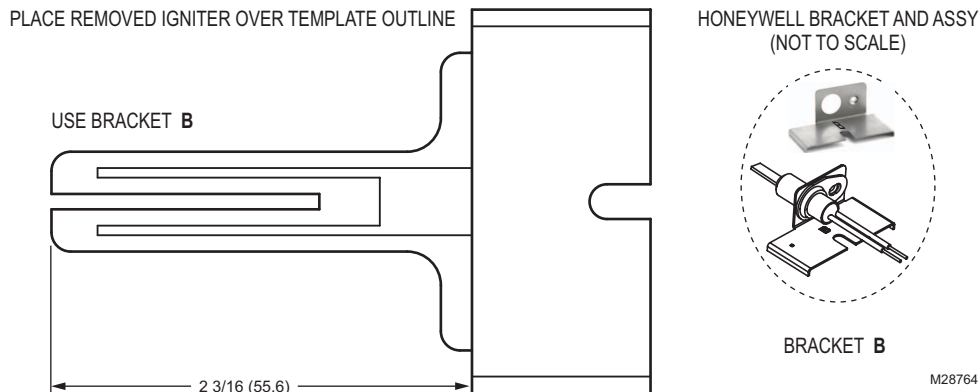
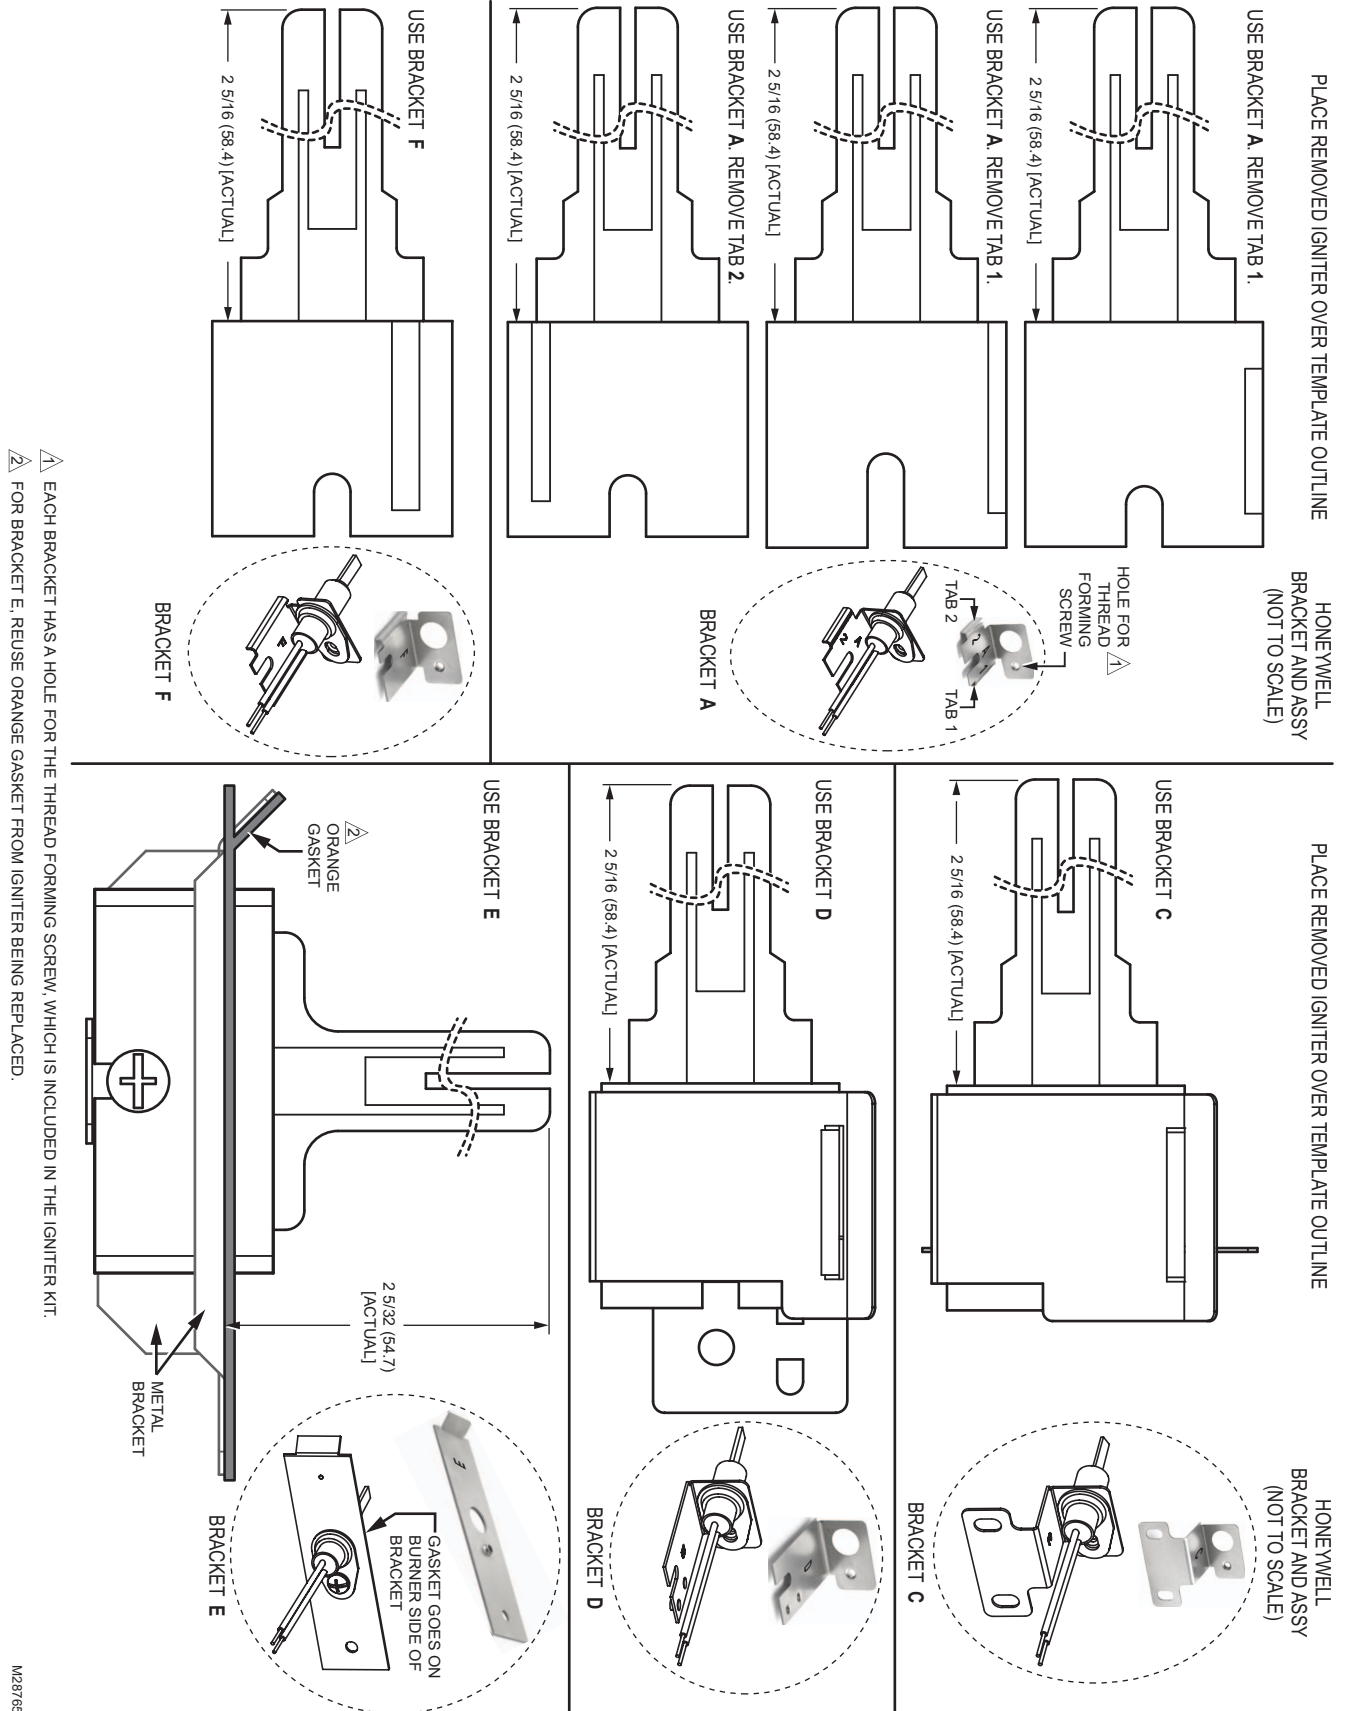

Fig. 1. Igniter bracket B template; dimensions in in. (mm).
Fig. 2. Igniter brackets A, C, D, E, and F template; dimensions in in. (mm).
2. Check the cross reference table on page 4 and the templates (Fig. 1 on page 2 and Fig. 2 on page 3) to make sure the proper igniter bracket is used for your application.
2. Using the bracket selection templates (Fig. 1 and Fig. 2), the cross reference (Table 1), and the original igniter assembly, place the igniter on the templates to confirm which bracket to use for this installation.
^b For igniters that require bracket A, use the template (Fig. 2 on page 3) to determine the tab to be removed.